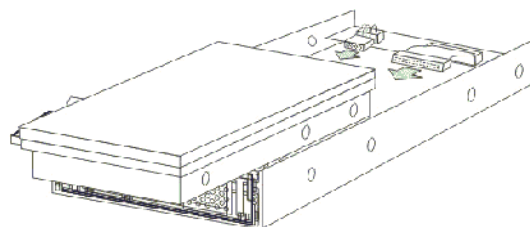

Figure 9: PATA Hard Drive Connectors
Step 5: For PATA drives, connect the ATA and power cables from the MUX kit to the hard drive. (See *Figure 9*) Make sure that these connections are secure and will not come loose.